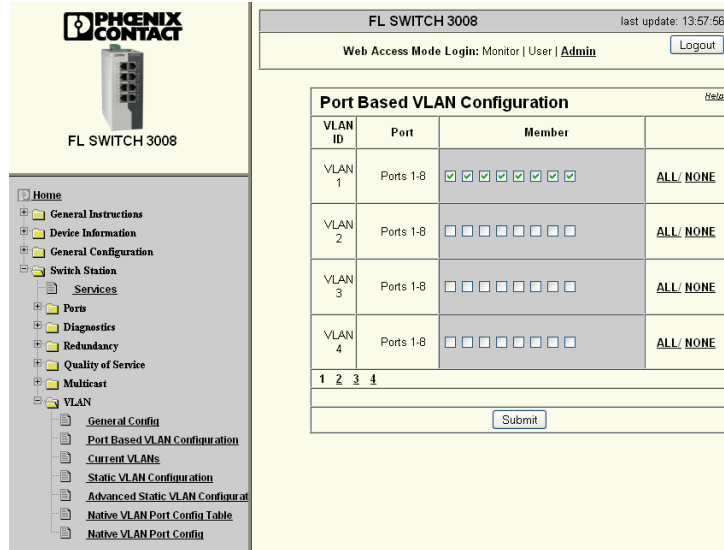

Figure 5-65 “Port Based VLAN Configuration” page
3. On the “Port Based VLAN Configuration” page (see Figure 5-65), assign the ports for incoming packets to individual VLANs using the VLAN ID (see “Port-based VLAN configuration” on page 140).